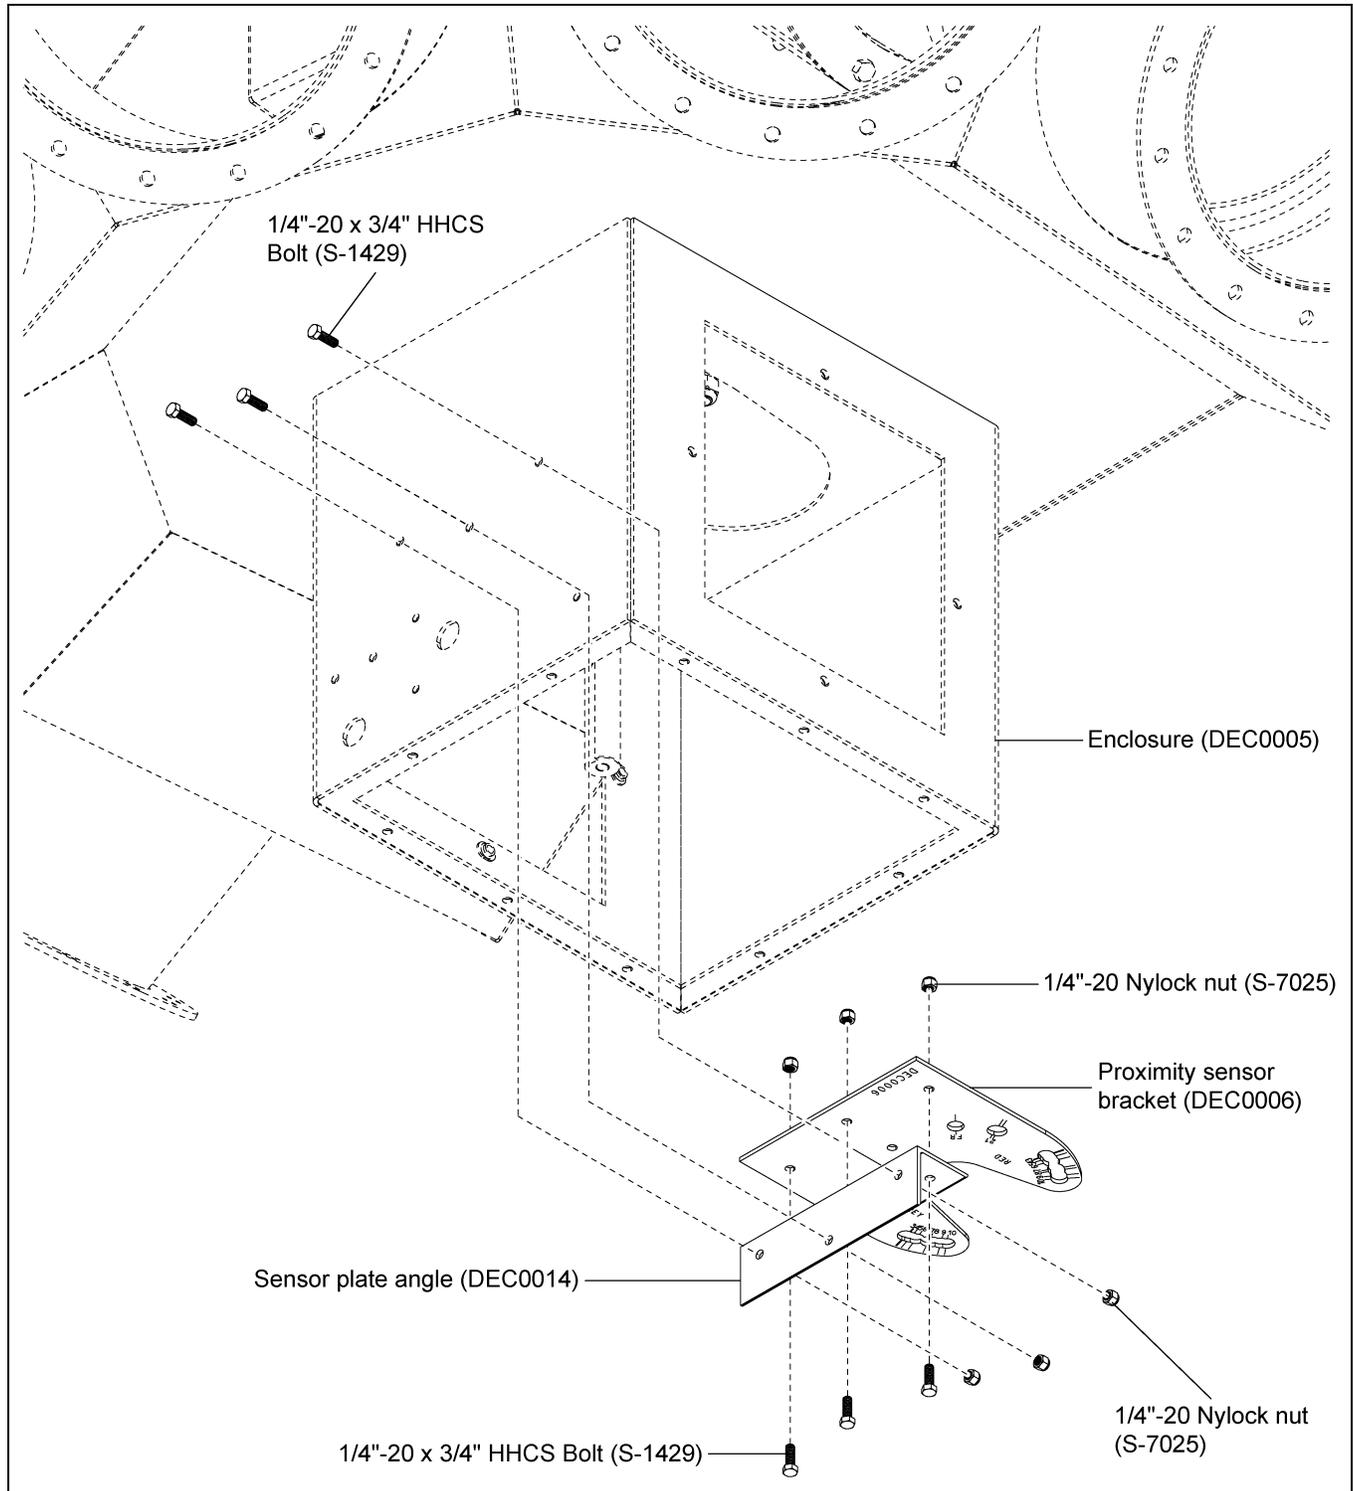

**Figure 3C** Junction Box
Install the junction box (DEC0019) to the enclosure (DEC0005) using four (4) self-drilling screws (S-280). Install the chase nipple, washer and lock nut. (See Figure 3C.)